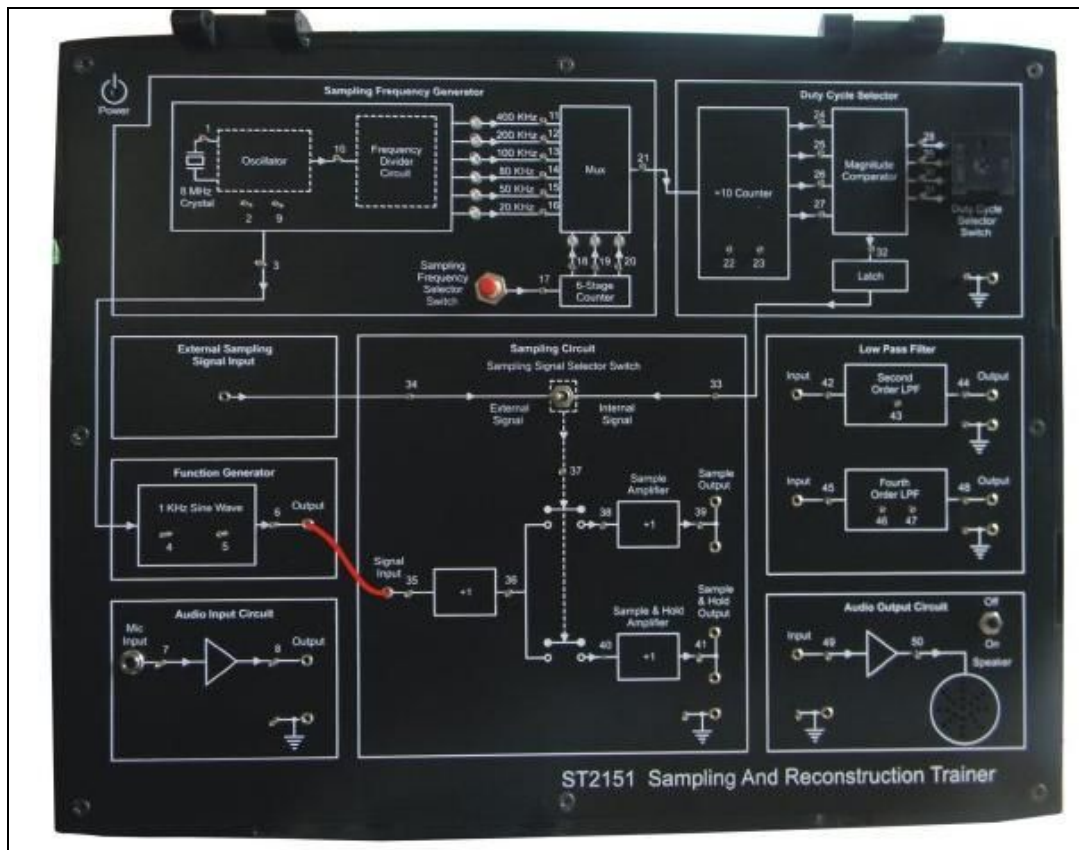

Fig 1. Connection diagram for sampling a signal
2. Connect 1 KHz Sine wave to signal Input as shown in Fig 1.